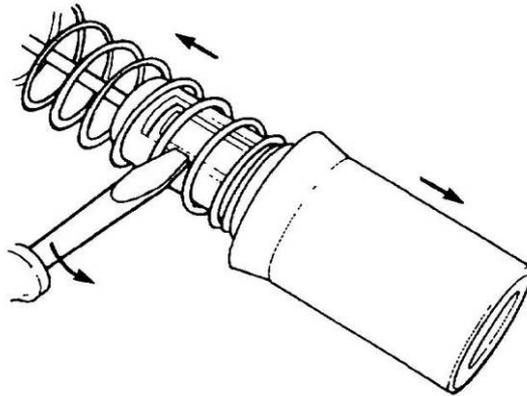

Figure 153 Removal of the Piston Seal
- d. Using a small screwdriver, prise the spring retainer locking prong clear of the piston shoulder, withdraw the piston (Figure 153), and the piston seal.